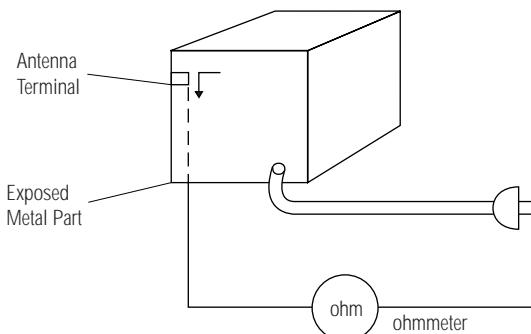

Fig. 2 Insulation Resistance Test
- (4) Insulation Resistance Test Cold Check-(1) Unplug the power supply cord and connect a jumper wire between the two prongs of the plug. (2) Turn on the power switch of the instrument. (3) Measure the resistance with an ohmmeter between the jumpered AC plug and all exposed metallic cabinet parts on the instrument, such as screwheads, antenna, control shafts, handle brackets, etc. When an exposed metallic part has a return path to the chassis, the reading should be between 1 and 5.2 megohm. When there is no return path to the chassis, the reading must be infinite. If the reading is not within the limits specified, there is the possibility of a shock hazard, and the instrument must be repaired and rechecked before it is returned to the customer. See Fig. 2.